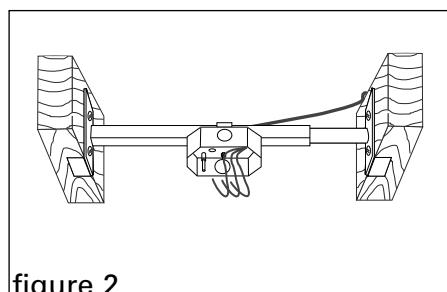

figure 2
2. Loosen the locknuts that clamp the electrical box to the bar and slide the box to the desired location (outer tube of bar only). See figure 2. Retighten the locknuts securely. Pull wire into box using clamp provided. **Do not overtighten. Tighten with hand only.** DO NOT USE POWER TOOLS TO TIGHTEN.